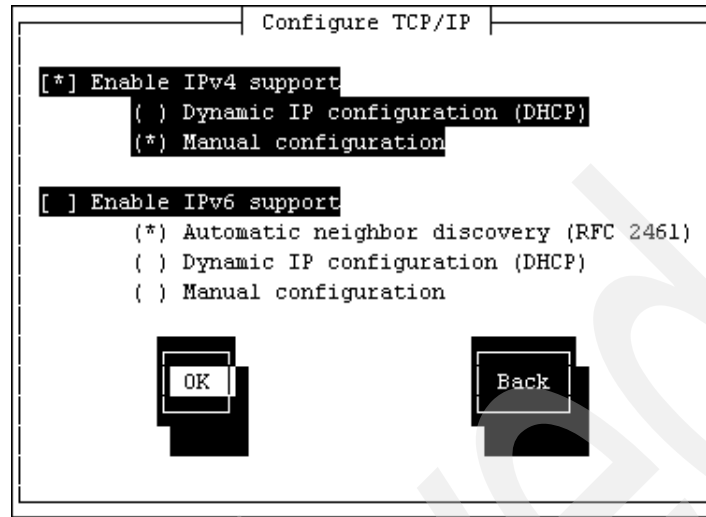
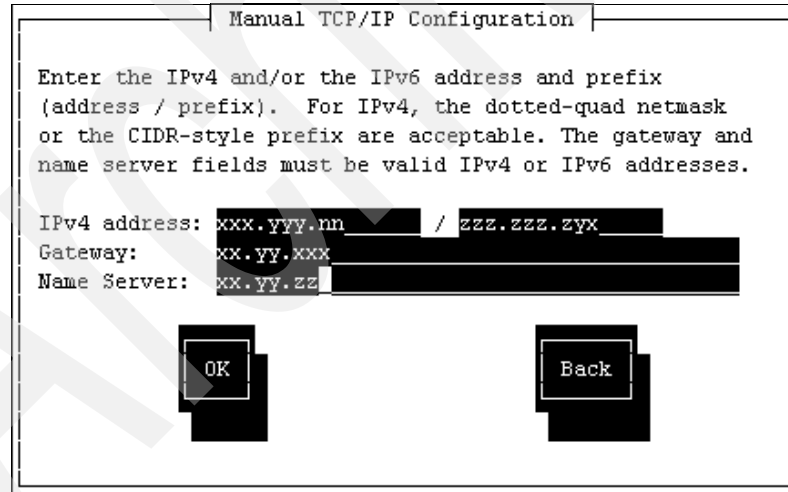

Figure 8-11 TCP/IP configuration panel
Figure 8-12 TCP/IP configuration of IP address, gateway, and name server
- If you are configuring DHCP, use the Configure TCP/IP window (shown in Figure 8-11 on page 338) to:
As an example, if you want to configure static IP parameters with IPv4 support, configure the TCP/IP parameters and **Enable IPv4** support, then select **Manual configuration** and disable **Enable IPv6 support** as shown in Figure 8-11 on page 338, and configure the device as shown in Figure 8-12 on page 338.
7. In the next panel, configure the LPAR's IPv4 address, subnet mask, gateway, and name server. An example configuration is shown in Figure 8-12
15. Select **OK** on the Network Configuration panel. The default is fine because this was already set up in Figure 8-12 on page 338.